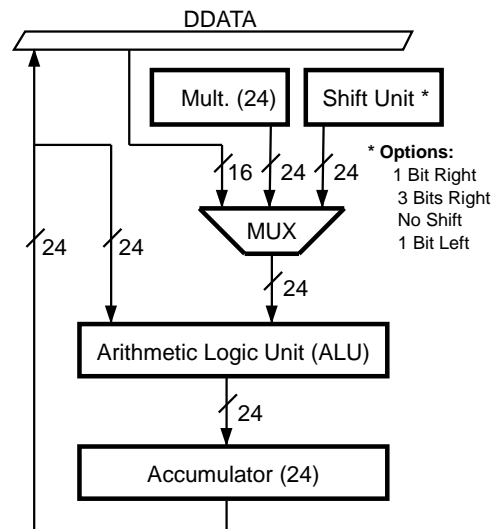

Figure 30. ALU Block Diagram
**ALU.** The ALU has two input ports, one of which is connected to the output of the 24-bit Accumulator. The other input is connected to the 24-bit P-Bus, the upper 16 bits of which are connected to the 16-bit D-Bus. A shifter between the P-Bus and the ALU input port can shift the data by three bits right, one bit right, one bit left or no shift (Figure 30).
The last method is called Short Form Direct Addressing, where one out of 32 addresses in internal RAM can be specified. The 32 addresses are the 16 lower addresses in RAM Bank 0 and the 16 lower addresses in RAM Bank 1. Bit 8 of the instruction field determines RAM Bank 0 or 1. The 16 addresses are determined by a 4-bit code comprised of bits S3 and S4 of the status register and the third and fourth bits of the Source/Destination field. Because this mode can specify a direct address in a short form, all of the instructions using the register indirect mode can use this mode (Figure 30). This method can access only the lower 16 addresses in the both RAM banks and as such has limited use. The main purpose is to specify a data register,